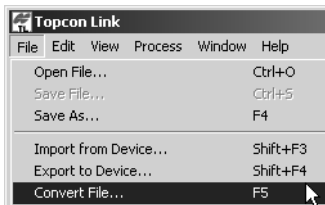

Figure 3-1. File->Convert File.
- Click **File->Convert to File** (Figure 3-1).